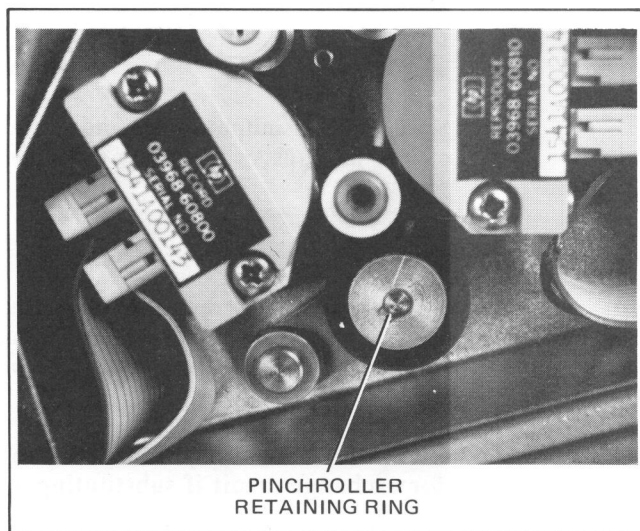

Figure 5-37. Pinchroller Removal
- c. Remove the retaining ring (see Figure 5-37).